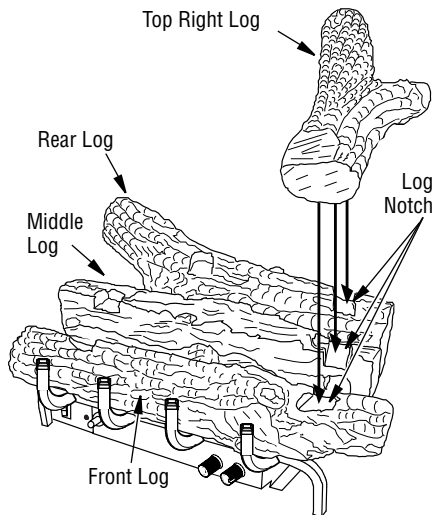

Figure 27 - Installing Top Right Log
3. Place the front log onto grate as shown in **Figure 27**.
4. Place the top right log onto the rear, middle and front logs as shown in **Figure 27**. The rear, middle and front logs has notches for the top right log to set into. You may have to move the front log from left to right to get it to line up with the top right log.